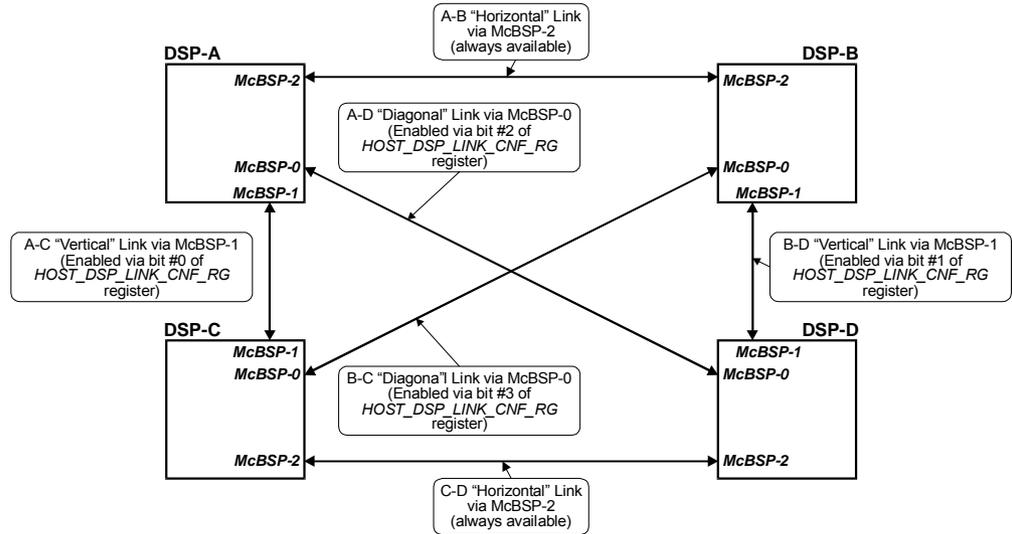

Fig.2-4a. On-board DSP-to-DSP communication topology via serial links for TORNADO-PX64xxQ DSP Coprocessor DCM.
- DSP-to-DSP communication via ‘horizontal’, ‘vertical’ and ‘diagonal’ serial links (fig.2-4a), which are actually TMS320C64xx DSP on-chip McBSP-0/1/2 serial ports. Serial links are typically used for stream-line data bulk real-time data transfers under the control of TMS320C64xx DSP on-chip EDMA controllers. ‘Vertical’ and ‘diagonal’ serial links for each DSP can be routed out to on-board MXSIOX edge connectors for external analog I/O and/or for board-to-board communication. Refer to subsection “DSP-to-DSP communication via ‘horizontal’, ‘vertical’ and ‘diagonal’ serial links” later in this section for more details about DSP-to-DSP communication via on-board DSP-to-DSP serial links.
TORNADO-PX64xxQ DSP coprocessor DCM supports DSP-to-DSP communication via bidirectional serial links, which appear as TMS320C64xx on-chip McBSP serial ports connected between on-board DSP in accordance with fig.2-4a.